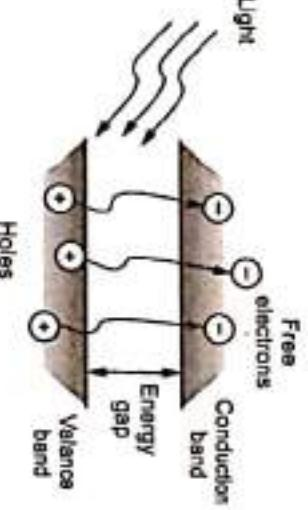

Fig. Q.35.1
- LDR is also called photo resistor or Fig. Q.35.1 Generation of charge carriers due to light
- The light dependent resistor uses high resistance semiconductor. When light falls on such a semiconductor the bound electrons get the light energy from the incident photons. Due to this additional energy, these electrons become free and jump into the conduction band. The electron-holes pairs are generated. Due to these charge carriers, the conductivity of the device increases, decreasing its resistivity. This is shown in Fig. Q.35.1.